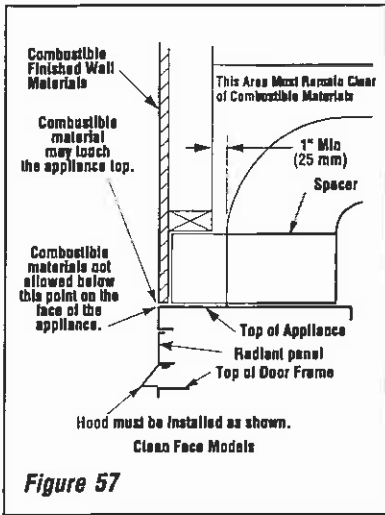

Figure 57
On all clean face units, slide the hood into the slots on the lower edge of the radiant panel (Figure 57 on page 24).
Complete finished interior wall. To install the appliance facing flush with the finished wall, position framework to accommodate the thickness of the finished wall (Figure 57, and Figure 58 on page 24).
*Note: Combustible wall finish materials and/or surround materials must not be allowed to encroach the area defined by the appliance front face (black sheet metal). Never allow combustible materials to be positioned in front of or overlapping the appliance front face. See Figure 57 and Figure 58.*